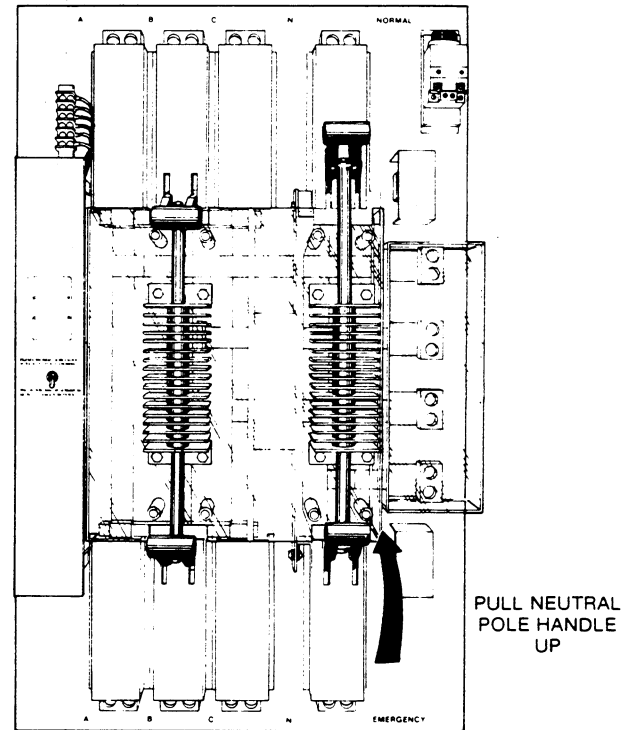

FIGURE 9.
2. Pull the lower neutral pole handle all the way up, as shown in Figure 9, connecting the load neutral to the neutral of the normal power source and disconnecting it from the emergency power source.